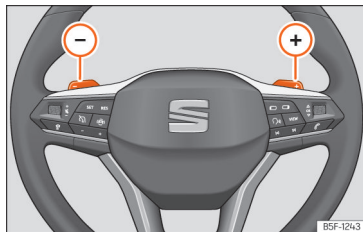

Fig. 125 Steering wheel: automatic gearbox levers
- Press the  gear shift paddle to change up a gear »» Fig. 125.